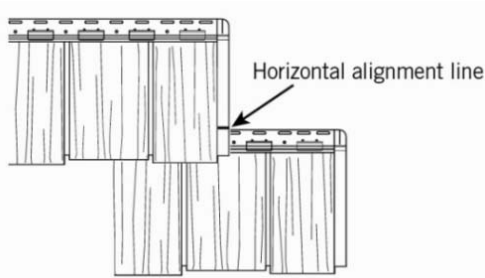

Figure 5
**STEP NINE:** For all succeeding courses, simply position the panel approximately 2 inches below the previous panel and slide upward making sure to engage the fingers and the bottom locking rail. Repeat Steps Five through Seven to complete the row. Exteria provides a horizontal alignment line on the lower right side of each panel. Refer to this line to ensure that the heights of the panels are consistent. Be sure not to overlap the seams of the panel below to ensure an authentic look (Figure 5). To achieve the desired look, it is recommended to randomly select a shingle on the panel and